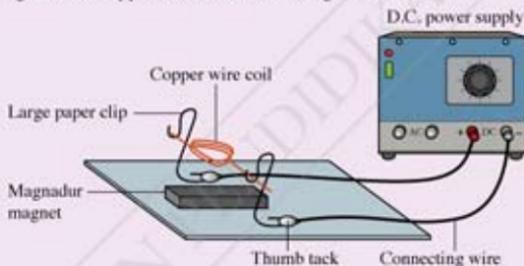

Figure 4.14
1. Set up the arrangement of apparatus as shown in Figure 4.14.